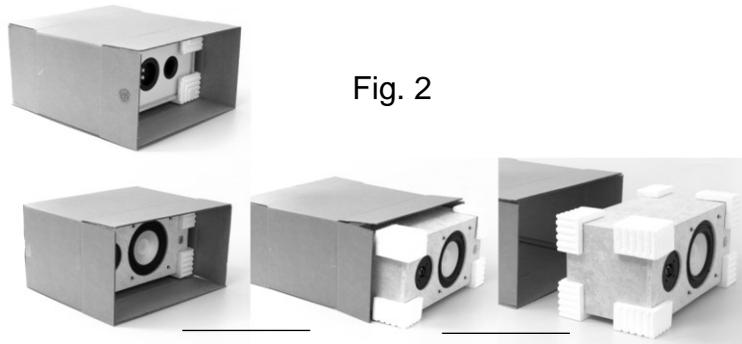

Fig. 2
4. Now that all loose components and parts are removed, place boxes on their side on a solid non-scratch surface, open bottom flaps of boxes, and, from the front or rear, carefully push cabinet until completely free of box. Cabinet should be resting on four (4) foam corners. Refer to *Fig. 2* below for safe removal of each speaker/cabinet.